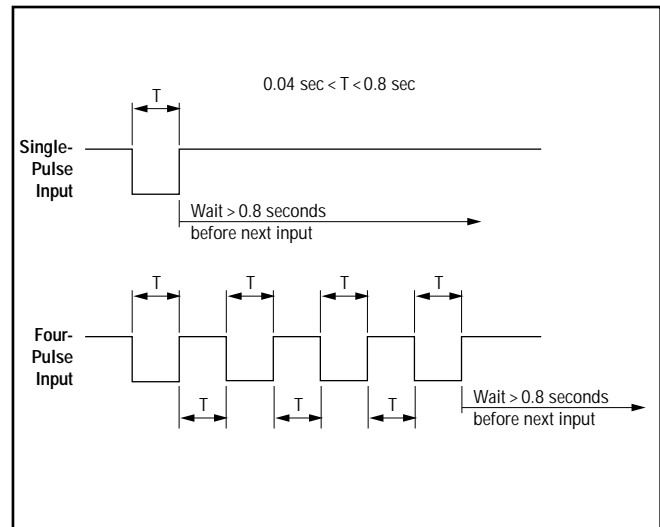

Figure 3. Timing programs for remote programming
The required spacing between adjacent pulses in a sequence (a "four-pulse") is also: $0.04 < T < 0.8 \text{ seconds}$. The timing diagrams (Figure 3, right) illustrate the input requirements.
Pulse the Remote TEACH line 4 times (four-pulse) to enable or disable the push button (see timing diagram, Figure 3).
2. Double-pulse the Remote TEACH line (see Figure 3). The sensor is now ready for Dynamic TEACH. The bi-color (green/red) indicator will be ON solid red and the yellow indicator will flash.